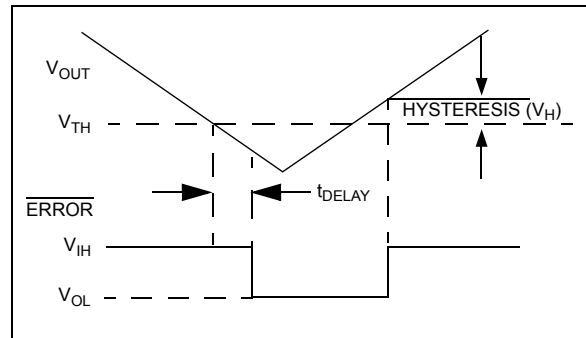

FIGURE 4-2: Error Output Operation.
ERROR is driven low whenever  $V_{OUT}$  falls out of regulation by more than -5% (typical). This condition may be caused by low input voltage, output current limiting, or thermal limiting. The ERROR output voltage value (e.g.  $ERROR = V_{OL}$  at 4.75V (typical) for a 5.0V regulator and 2.85V (typical) for a 3.0V regulator). ERROR output operation is shown in Figure 4-2.
- Changed Figure 4-2.